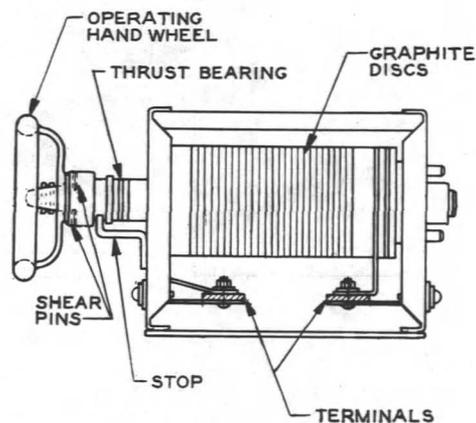

Fig. 7 — KS-15669 Rheostat — Carbon Pile Type
1.11 Carbon Pile Construction: A rheostat of this type is shown in Fig. 7. This rheostat consists of graphite discs mounted on an insulated shaft which extends through holes in the discs, an operating handwheel, and a frame for supporting the assembly. The resistance is varied by turning the handwheel to vary the pressure with which the graphite discs are held together.